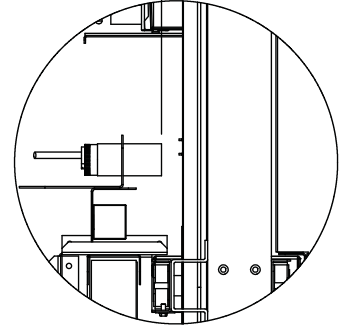

Fig. 1 - Wheel Sensor
3. Install bracket with wheel sensor and relay to the area just behind the wheel using the holes provided. (See Fig. 1.)
4. Adjust wheel sensor so that is about 1/4-in. from the wheel to start off with. (See detail in Fig. 1.)